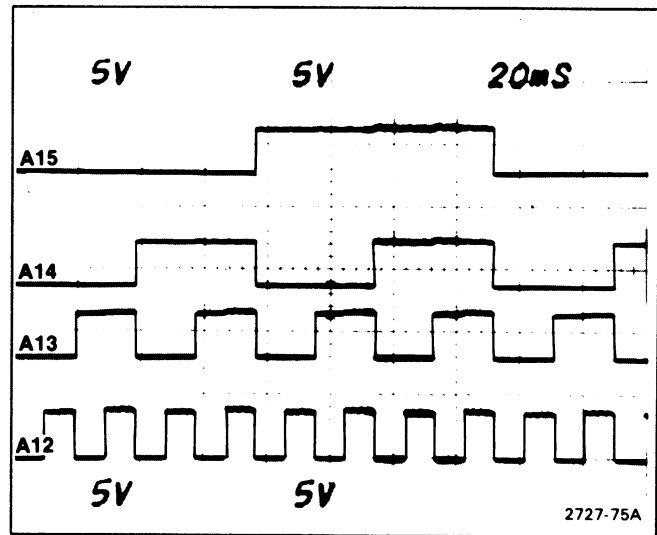

Figure 6-24. A15 through A12 in microcomputer test mode.
**Microcomputer Bus** — As the microcomputer cycles through its address space, it toggles the address lines. The MSB, A15, has a period of approximately 1540 ms. Each line, A14 through A0, has a period half that of the previous line. Thus, the LSB A0 has a period of approximately 4.7  $\mu$ s. High-order lines A15 through A12 are shown in Figure 6-24. Ignore the narrow pulses that may be evident during the low portion of each cycle.